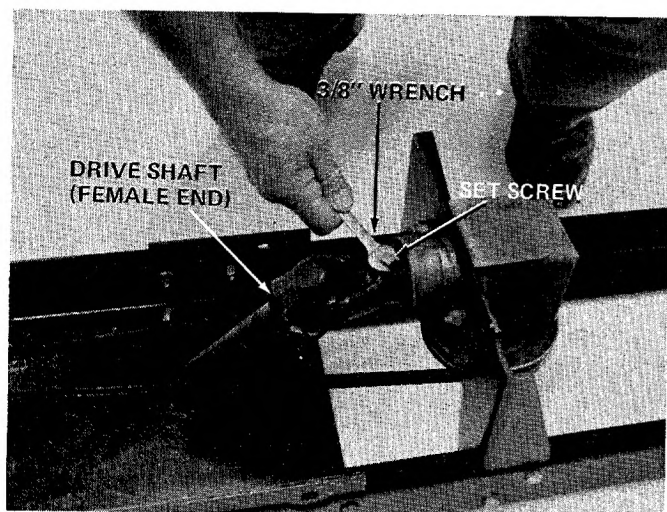

FIGURE 18
1. Slip female end of drive shaft over shaft of right angle drive. Make sure key way is in shaft. Tighten set screw with 3/8" open end wrench. See figure 18.